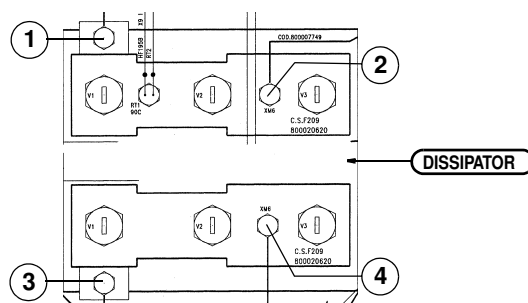

fig. 5 DIODES OF THE SECONDARY CIRCUIT
- Diodes of the secondary circuit: test between points 1,2,3,4 and the diode dissipator (fig. 5); if there is a short circuit: first disassemble the circuit ref. 21, then take out diode module from the generator, unsolder the electronic circuit F209 from the three power diodes: if there are short circuit replace them.